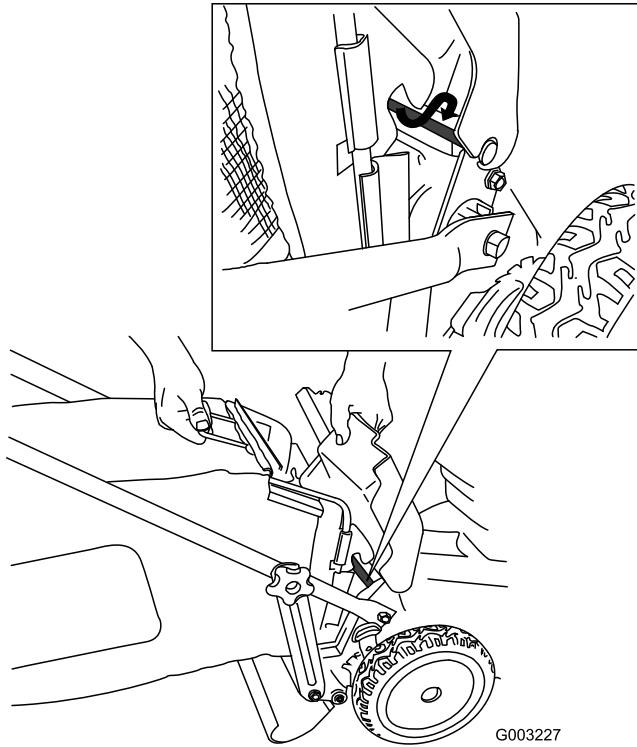

Figure 25
4. Install the bag onto the door rod (Figure 25).